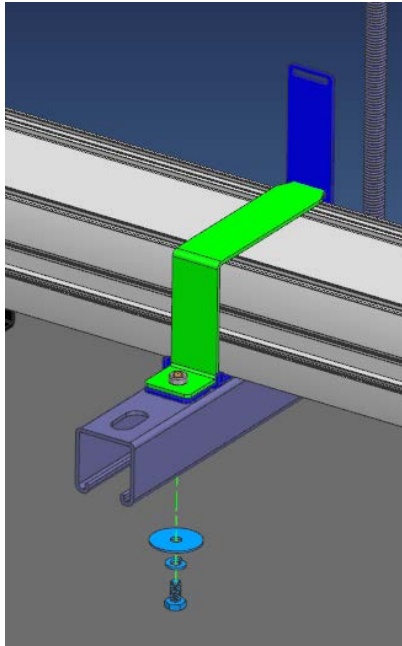

Figure 23 – Install top low bracket and secure
1. Insert top low brackets into base bracket middle slots and secure with provided hardware (Figure 23).